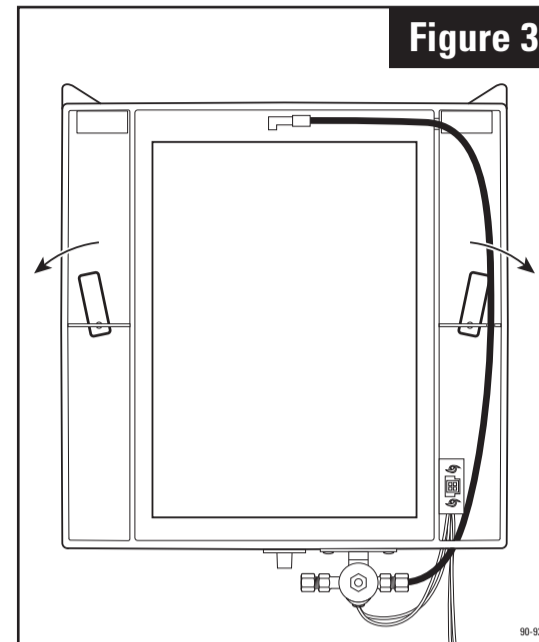

Figure 3
- While pressing the base against the plenum, reach through the center opening and turn left and right swing latches down to secure the base onto the plenum. (See Figure 3)
- Reinstall the evaporative assembly into the base, with the bottom of the scale control insert (5) sitting firmly in the inside of the drain spud attached to the base. Push the evaporative assembly in at the top between the retaining ribs that hold the assembly in place in a vertical position. Reinstall cover assembly by hooking at the top of base assembly and latching at the bottom.